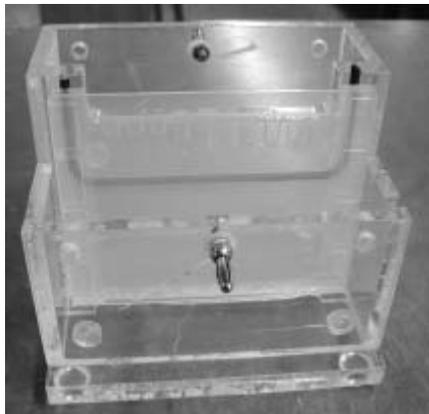

Figure 3. Placement of the polyacrylamide gel in the electrophoresis chamber (arrows indicate the raised platforms on which the edges of the gel should rest).
4. Place the pre-cast gel in the lower electrophoresis chamber with the notched plate flush against the side of the upper buffer chamber. The edges of the gel should rest on small plastic platforms that raise the gel about 1 mm off the bottom of the chamber. This will allow the running buffer to contact the bottom of the gel during electrophoresis (see Figure 3).